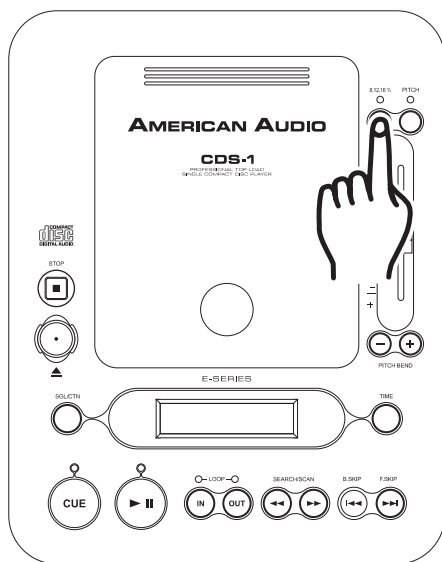

Figure 14
This function will increase or decrease a tracks playback speed or "PITCH," this is not a momentary change as in "PITCH BENDING" (see page 16). The maximum pitch bend percentage allowed is +/-16%. The *PITCH SLIDER* (19) is used to decrease or increase the playback pitch. If the slider is move up (towards the top of the unit) the pitch will decrease, if the slider is moved down (towards the bottom of the unit) the pitch will increase. The *PITCH SLIDER* (19) adjustment can be changed to range from +/-8%, +/-12%, or +/-16% (See changing "PITCH SLIDER PERCENTAGE RANGE" figure 14/page 16). The pitch adjustments will effect playback, reverse playback, and loops.